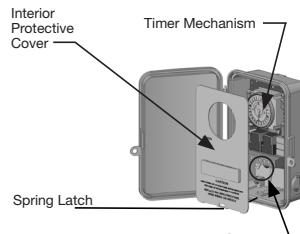

Figure 1 - PCB Latch
1. Open door and remove the interior protective cover by releasing the spring latch. (See Figure 1)
2. Remove the printed circuit board by releasing the spring latch holding the bottom of the board. (see Figure 1)